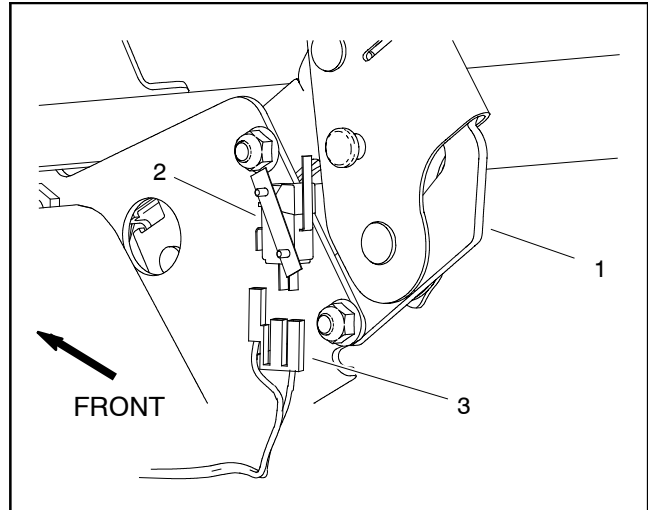

Figure 37
The parking brake switch is used as an input for the vehicle controller to identify when the parking brake is applied. The parking brake switch is attached to the parking brake mount behind the dash (Fig. 37).
3. Disconnect wire harness electrical connector from the brake switch (Fig. 37).